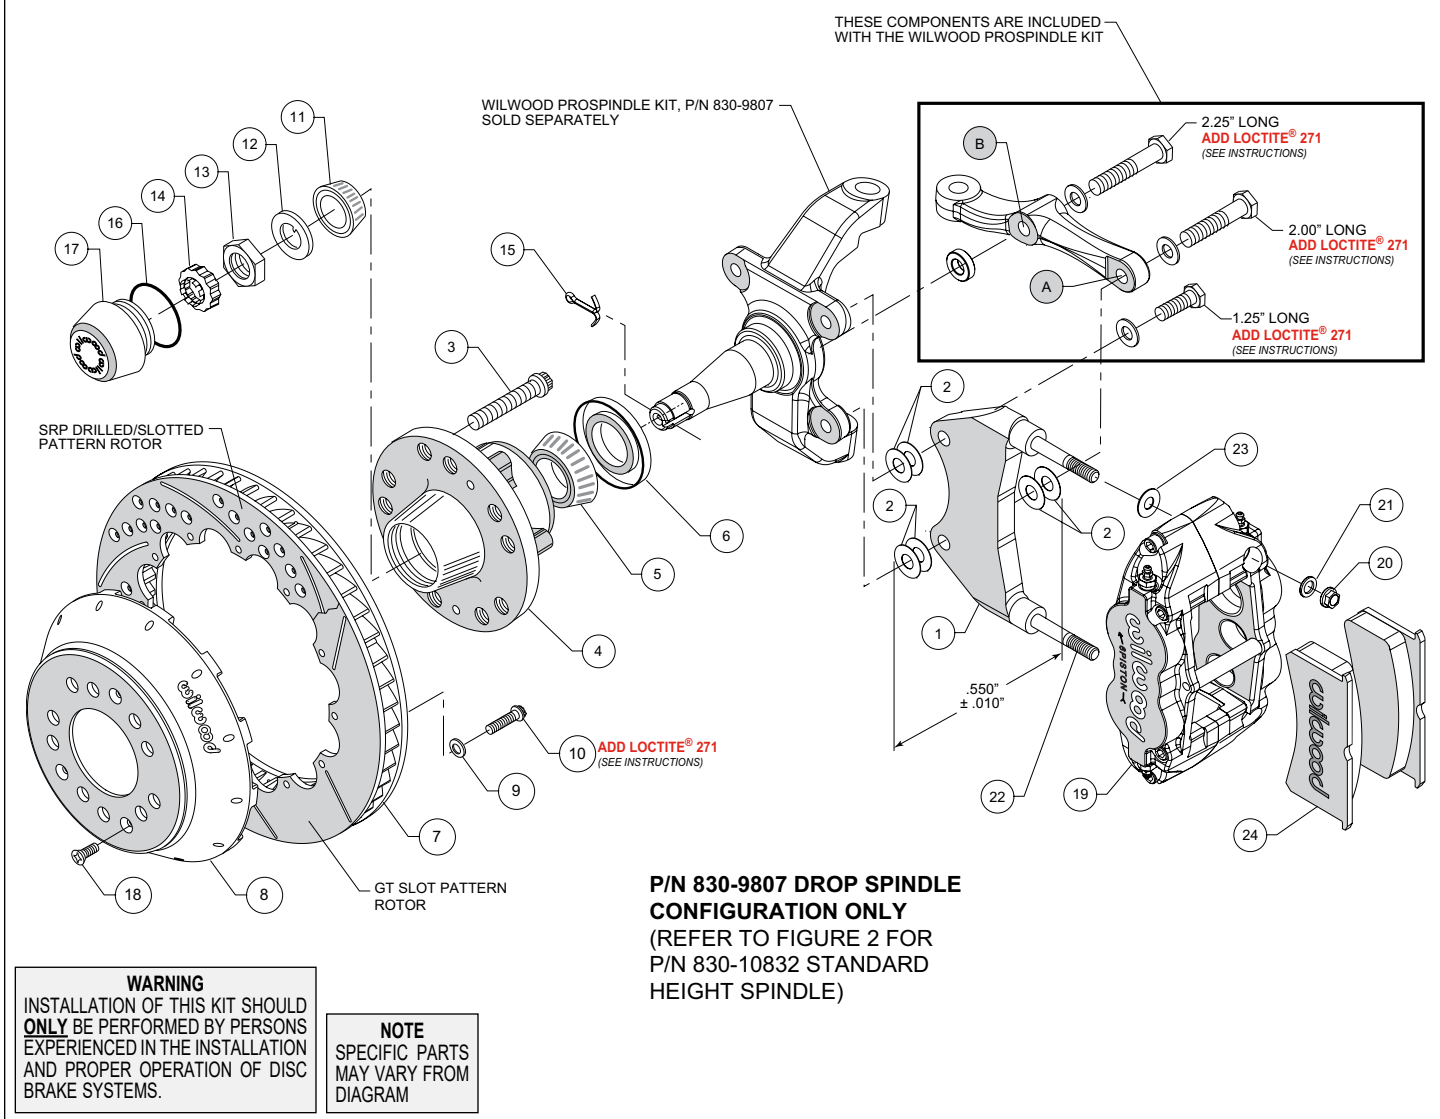
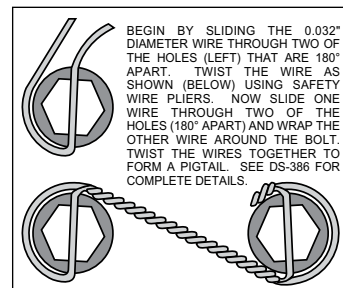

Figure 1. Installation Configuration For Drop Spindle, P/N 830-9807
Figure 4. Safety Wire Diagram
Assembly Instructions (numbers in parenthesis refer to the parts list and Figures 1 or 2 on the preceding pages):
- NOTE:** Each Wilwood ProSpindle kit includes bolts, washers, and a spacer to mount the steering arm and caliper bracket. The various bolts are identified by length in the following instructions and in Figures 1 and 2.
- Orient the bracket as shown in Figure 1 and Photo 1. Install at top spindle hole using 1.25" long bolt and .06" thick washer (from ProSpindle kit), and two .016" thick shims (2) between the bracket and spindle, Figure 1.
- Orient the steering arm, and identify the hole marked 'A', as shown in Figure 1. Install at bottom spindle hole using 2.00" long bolt and .06" thick washer (from ProSpindle kit), two .016" thick shims (2) between the bracket and steering arm, and another two .016" thick shims (2) between the bracket and spindle, Figure 1. The bracket is located between the steering arm and spindle. **NOTE:** The bracket and shim washers must add up to a total thickness of .550" \pm .010", Figure 1.
- Finish attaching the steering arm through the hole marked 'B', as shown in Figure 1. Install using 2.25" long bolt, .06" thick washer, and .25" thick spacer (all from ProSpindle kit), Figure 1.
- Pack the large inner bearing cone (5) with high temperature disc brake bearing grease (available from your local auto parts store) and install into the backside of the hub (4), Photo 4.
- Install the grease seal (6) by pressing into the backside of the hub (4), Photo 4.
- Orient the rotor (7) and the hat (8) as shown in Figures 1 or 2, and Photo 5. Attach rotor to hat using bolts (10) and washers (9). Apply red *Loctite*® 271 to the bolt threads and torque to 155 **in-lb** using a criss-cross pattern. For an added measure of security, the bolts may be safety wired using standard 0.032 inch diameter stainless steel safety wire as shown in Figure 4. Refer to Wilwood's data sheet DS-386 (available at www.wilwood.com/Pdf/DataSheets/ds386.pdf) for complete safety wire installation instructions.
- Pack the small outer bearing cone (11) with high temperature disc brake bearing grease and install into hub (4). Slide the hub assembly onto the spindle. Secure using spindle washer (12) and spindle nut (13), Photo 6. Bearing adjustment: Tighten the nut while turning the hub. When there is a slight bind on the bearings, they are seated correctly. Back the nut off about 1/6 to 1/4 of a turn, or sufficiently to allow .001" to .007" end play. **WARNING:** Failure to back off adjusting nut could cause bearing to run hot and be damaged, which could cause the wheel to lock or come off. Install spindle nut retainer (14) and cotter pin (15).
- Screw dust cap (17) into hub (4), Photo 7. Friction created by the o-ring (16) on the dust cap keeps it from unscrewing.
- Slide the hat/rotor assembly (7/8) onto the hub (4) taking care to align the small countersunk holes in the hat with the small threaded holes in the hub. **NOTE:** The hat must fit flush against the hub face or excessive rotor run out may result. Install three flat head screws (18) through the small holes in the hat (8), Photo 7, and torque to 85 **in-lb**.
- NOTE:** This kit contains distinct right and left hand calipers that must be mounted in a specific direction, as described below. Initially place one .035" thick shim (23) on each stud (22) as shown in Figure 1 or 2, and Photo 8. Mount the caliper (19) onto the bracket (1) using lock nuts (20) and washers (21), Figure 1 or 2. Ensure that the caliper is mounted so that the largest pistons are at the rotor exit end of the caliper, in relation to the direction of rotor rotation. Temporarily tighten the lock nuts and view the rotor through the top opening of the caliper. The rotor should be centered in the caliper, Photo 9. If not, proceed as follows:
- For the lower bracket mount bolt, if a shim was added between the bracket and spindle, then a shim must be removed between the steering arm and bracket, such that the total thickness of bracket and shims remain equal to $.550 \pm .010$ ", Figure 1.